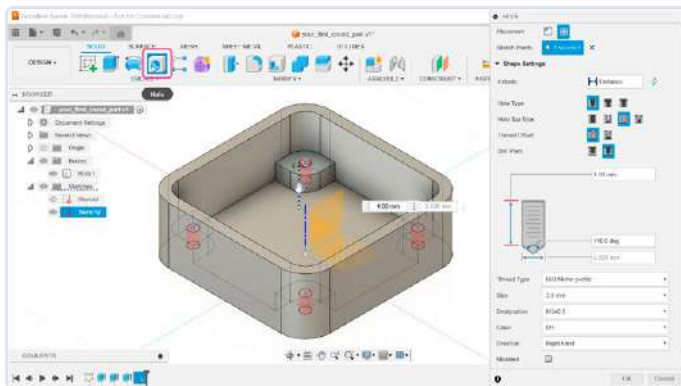

Figure 15: Setting depth and thread types for the holes.
15) Close the sketch, show *Body1*, and select the *Hole* tool from the toolbar. Click on all four points and set the Hole (Figure 15). Set *Hole Type* to Tapped. *Thread Type* should be *ISO Metric profile* and *Size* should be 3.0 mm. As for the depth, we don't want the holes to go all the way through, and, since the supports are extruded 6 mm over the ground plane, a 4 mm depth should work fine.